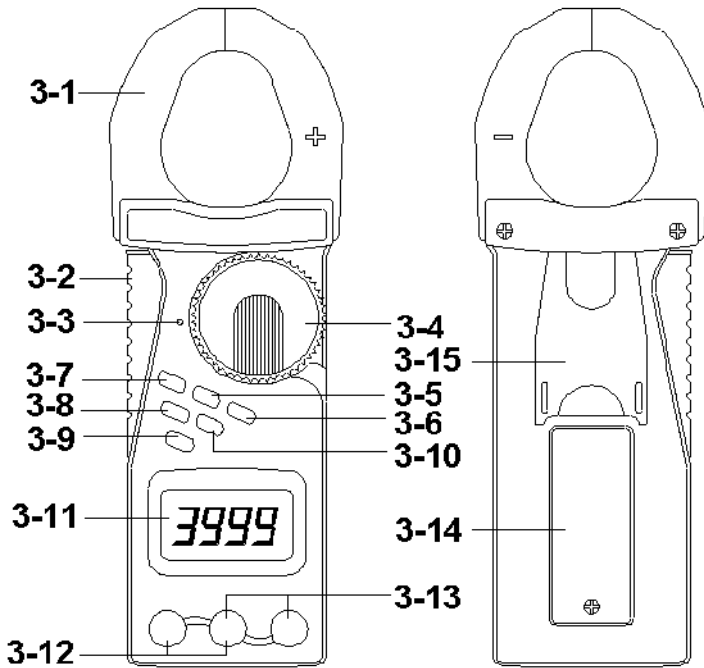

Fig. 1
- 3) If measure " DCV ", select the " Function rotary switch " (3-4, Fig. 1) to the " V " position then push the " FUNC. button " (3-9, Fig. 1) for display show "  " .
- 4) If measure " ACV ", select the " Function rotary switch " (3-4, Fig. 1) to the " V " position then push the " FUNC. button " (3-9, Fig. 1) for display show "  " .
- 6) Under the operation of " auto range " mode, push the " Range button " (3-10 Fig. 1) will hold the range.
- 3) Select the " Function rotary switch " (3-4, Fig. 1) to the " Ω " position then push the " FUNC. button " (3-9, Fig. 1) for display show " Ω " .
- 5) Under the operation of " auto range " mode, push the " Range button " (3-10 Fig. 1) will hold the range.
- 3) Select the " Function rotary switch " (3-4, Fig. 1) to the
- "  " position then push the " FUNC. button " (3-9, Fig. 1) for display show "  " .
- 3) Select the " Function rotary switch " (3-4, Fig. 1) to the "  " position then push the " FUNC. button " (3-9, Fig. 1) for display show "  " .
- 1) Select the " Function rotary switch " (3-4, Fig. 1) to the " 2000A " position then push the " FUNC. button " (3-9, Fig. 1) for display show "  ".
- 2) Press the " Trigger " (3-2, fig. 1) to open the " Current Sensor Jaws " (3-1, Fig. 1) & clamp on the measure conductor only.
- a. *Recommend use the "auto range "mode typically. However if push the " Range button " (3-10, Fig. 1) will hold the range.*
- 2) Push the " DCA zero button " (3-5, Fig. 1) at least 2 seconds to let the display show " ZERO " value.
- 3) Press the " Trigger " (3-2, fig. 1) to open the " Current Sensor Jaws " (3-1, Fig. 1) & clamp on the measure conductor only.
- 3) If measure " μA " (400 μA , 4000 μA), select the " Function rotary switch " (3-4, Fig. 1) to the " μA " position then push the " FUNC. button " (3-9, Fig. 1) for display show "  ".
- 4) If measure " mA " (40 mA, 400 mA), select the " Function rotary switch " (3-4, Fig. 1) to the " mA " position then push the " FUNC. button " (3-9, Fig. 1) for display show "  ".
All the measuring procedures are same as above 5-8, except push the " FUNC. button " (3-9, Fig. 1) for display show "  ".